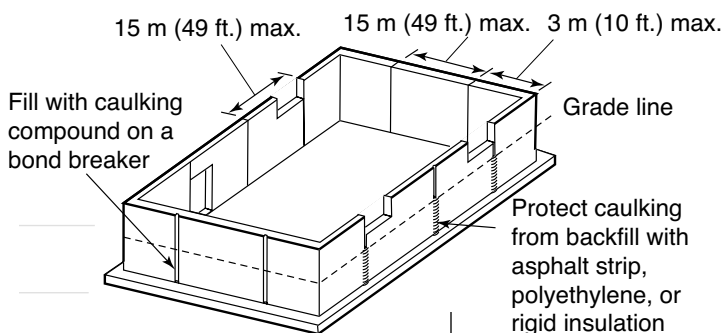

FIGURE 10
- ◆ The NBC requires that control joints shall be provided in foundation walls more than 25 m (82 ft.) long, and at intervals of not more than 15 m (49 ft.) (see Figure 10).